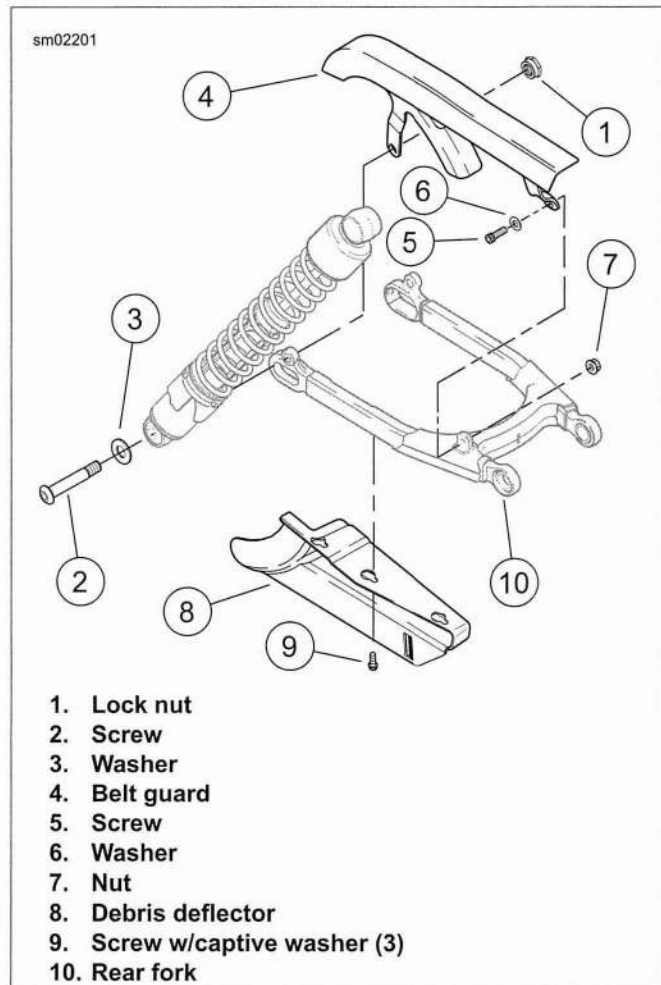

Figure 2-160. Belt Guard/Debris Deflector: XL Models
1. See Figure 2-160. Remove right side lower shock absorber mount locknut (1). Pull shock absorber mounting screw (2) out slightly until it clears mounting hole in belt guard (4).
2. Remove screw (5), washer (6) and nut (7) securing front of belt guard to rear fork (10).
1. See Figure 2-160. Slide belt guard (4) into place on vehicle. Tab on front of belt guard mounts outboard of mounting bracket on rear fork.
2. Secure front of belt guard to rear fork (10) with screw (5), washer (6) and nut (7). Tighten to 120-180 **in-lbs** (13.6-20.4 Nm).
3. Push lower shock absorber mounting screw (2) through rear belt guard mounting hole. Thread locknut (1) on screw. Tighten to 45-50 **ft-lbs** (61-68 Nm).
1. See Figure 2-160. Loosen, but do not remove, three screws with captive washers (9) securing debris deflector (8) to underside of rear fork (10).
1. See Figure 2-160. Position debris deflector (8) in place on underside of rear fork (10).
2. Fit large end of keyway slots in deflector over screw heads and captive washers (9). Slide deflector rearward to lock screws in slots. Tighten screws to 36-60 **in-lbs** (4.1-6.8 Nm).